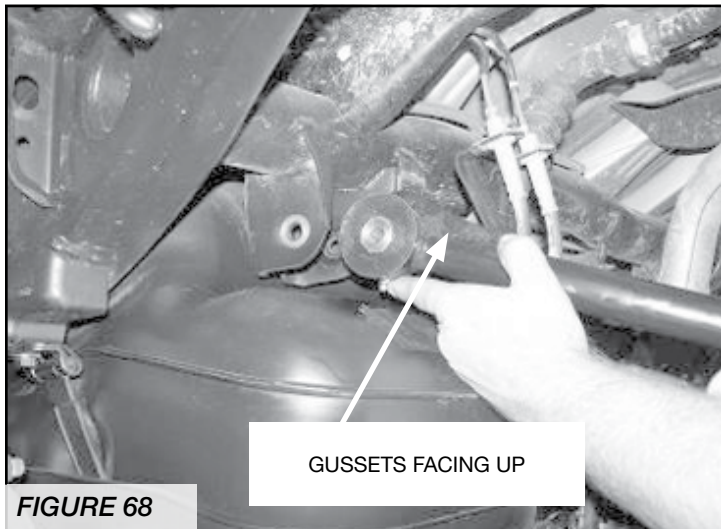

FIGURE 68
46. Remove the driver upper link and install an assembled Fabtech link with the gusset facing upward in the frame pocket and down at the axle mount with the stock hardware. Repeat on the passenger upper link. **SEE FIGURE 68**